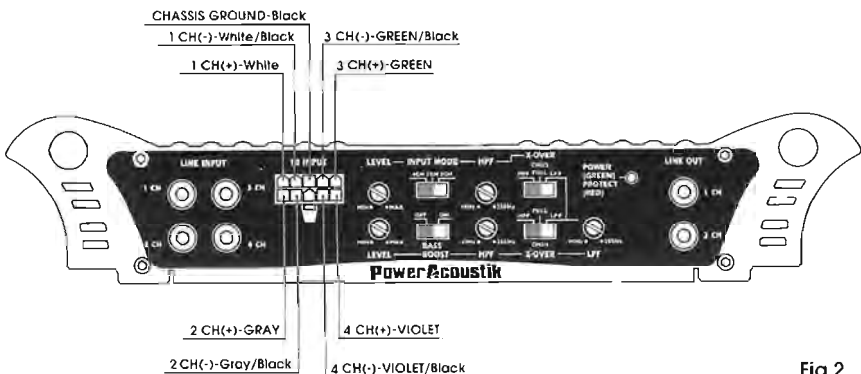

Fig 2
E. CONNECTING HIGH LEVEL INPUTS (Fig.2)